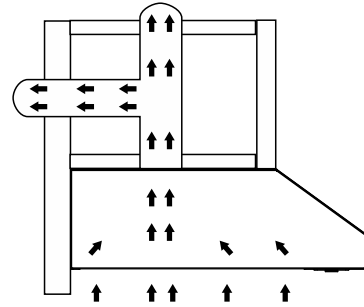

Fig 3
-To remove the grease filter/s (Fig.3), in line with the handle, push the stop inwards and pull the filter down.
To remove the filters, in line with the handle, push the stop inwards and pull the filter down (Fig.3).